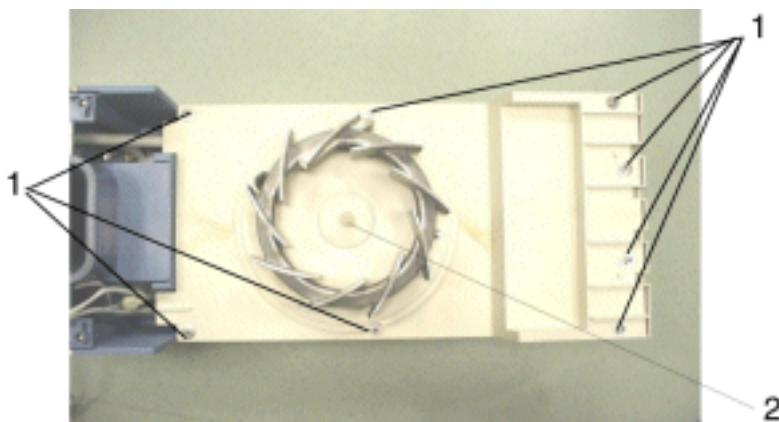

Fig.248 Front view of the air heater
4. Carefully remove rubber sleeve (2) from shaft of fan motor, see Fig. 248.
5. Remove screws and washers (1), see Fig. 248.